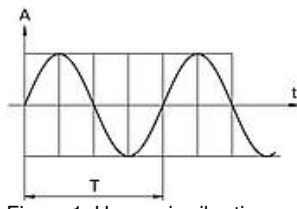

Figure 1: Harmonic vibration
**Figure 1** shows a sinusoidal, undamped vibration. The most important terms in vibration engineering are frequency  $f$ , amplitude  $A$  and damping factor  $D$ . Natural frequency as well as resonance are also important figures when considering isolation systems.